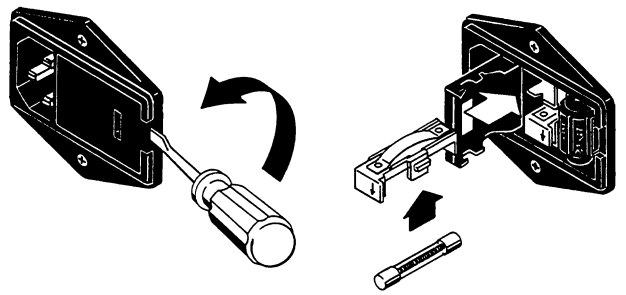

Figure 4-10
5. Refer to Figure 4-10. Use the end of the screwdriver to lift out the fuse drawers. Replace both of the fuses with fuses of the same type and rating.